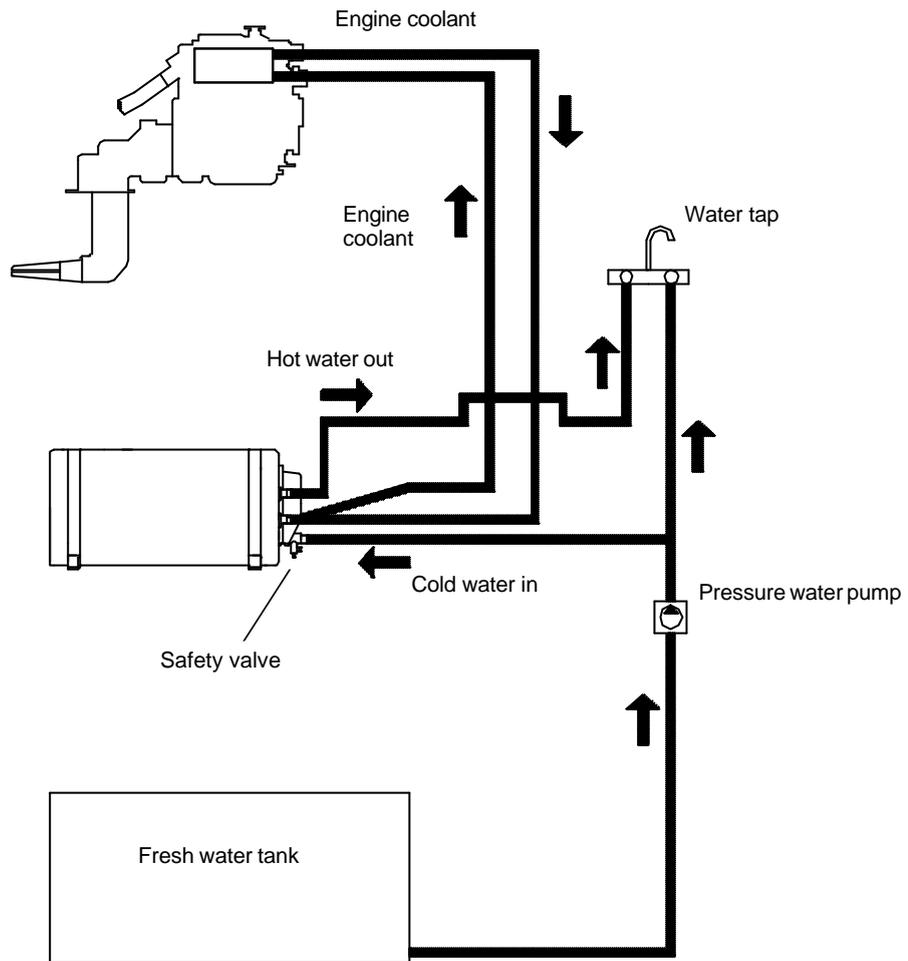

Fig. 2
3.2 Engine connections (see diagram, fig. 2): The water heater is meant for use on fresh water cooled engines. Some sea water cooled engines, having a thermostat temperature control and possible hot water hose connections, could also be used, if the working temperature is enough, 65 - 85°C / 150 - 185°F. The flow of cooling water from the engine through the water heater must be at least 2 litres/min. If the boat has two engines, connect the water heater to one engine only. If two water heaters are to be mounted, connect them in parallel.
3.3 Freshwater connections (see diagram, fig. 2): The water heater is fed with fresh water from the electrical fresh water pump connected to the fresh water tank. Max pressure for the pump 3 bar (42 psi). A multi chamber pump creates less pressure peaks and gives a smooth flow. The hot water outlet, which also vents the water heater, should be connected to a mixer tap at the sink and/or basin outlet, to mix cold water with hot to avoid scalding. If the water heater is equipped with a thermostat mixer valve a suitable temperature between 38 and 65°C / 100 and 150 °F can be chosen with the thermostat mixer valve.